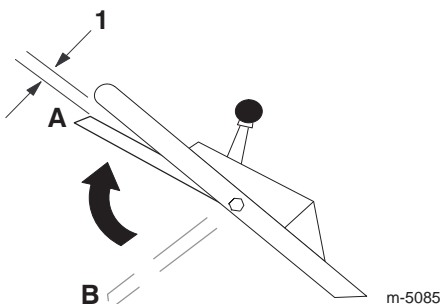

Figure 16
- Lift the blade control bail up to about one inch (2.5 cm) below the handle; refer to position A in Figure 16.